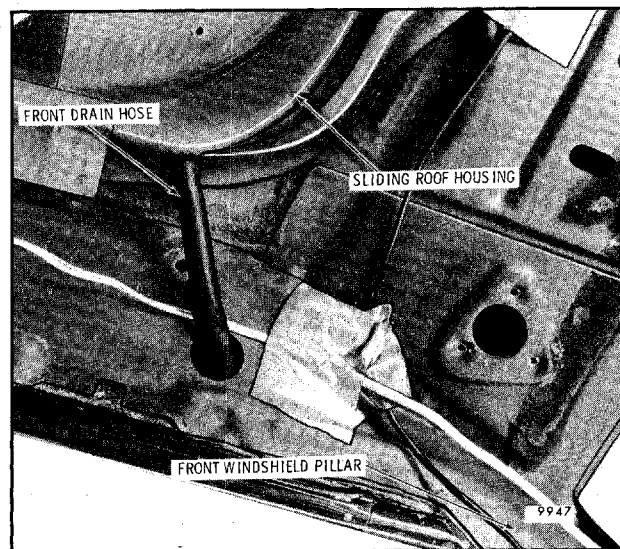

Fig. 8-122-Front Drain Tube Connected to Drain Outlet
5. Disconnect tube from drain outlet at top (Fig. 8-122).